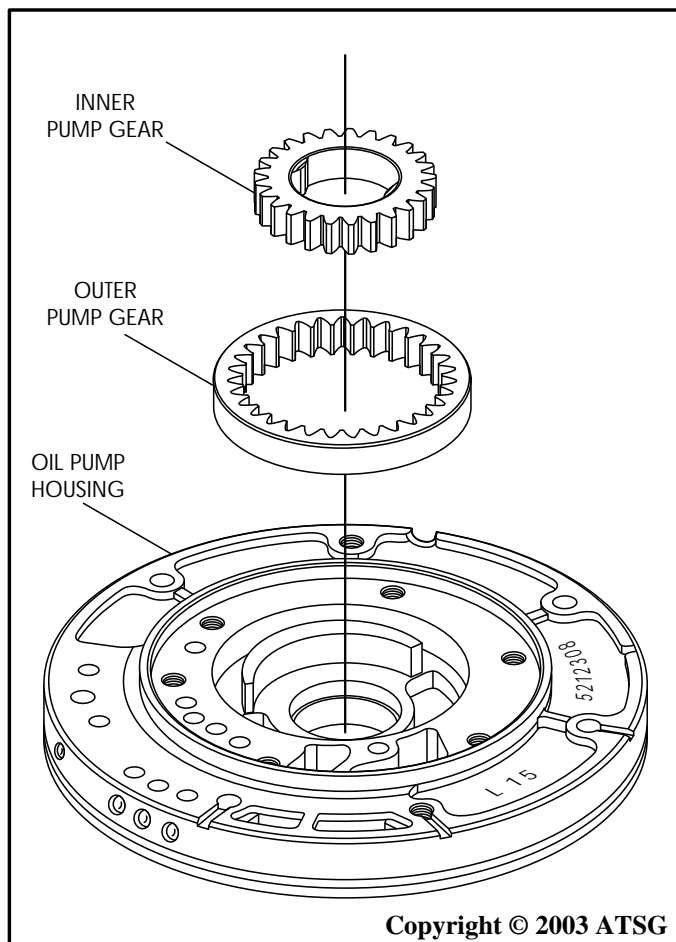

Figure 87
10. Install both outer and inner pump gears into pump pocket, as shown in Figure 87, using a small amount of transaxle fluid.